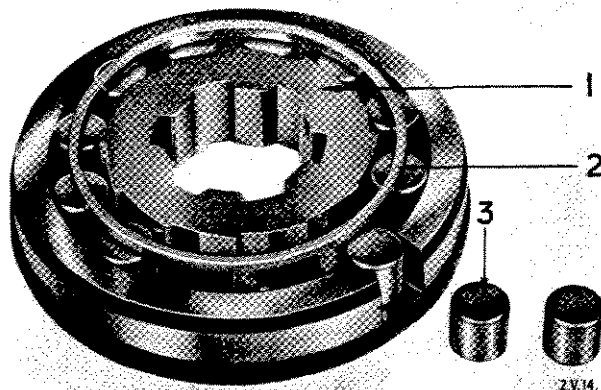

Fig. 15. Using Tool No. L.178 to assemble roller clutch
Refit the thrust washer (31) and uni-directional clutch inner member (29) with its rollers (28), cage (27) and spring (30). The "Free Wheel Assembly Ring" and "Transfer Ring" shown on Fig. 15, are ideal for assembling the uni-directional clutch, but where these fixtures are not available, assemble the rollers and hold them in place with a strong elastic band.